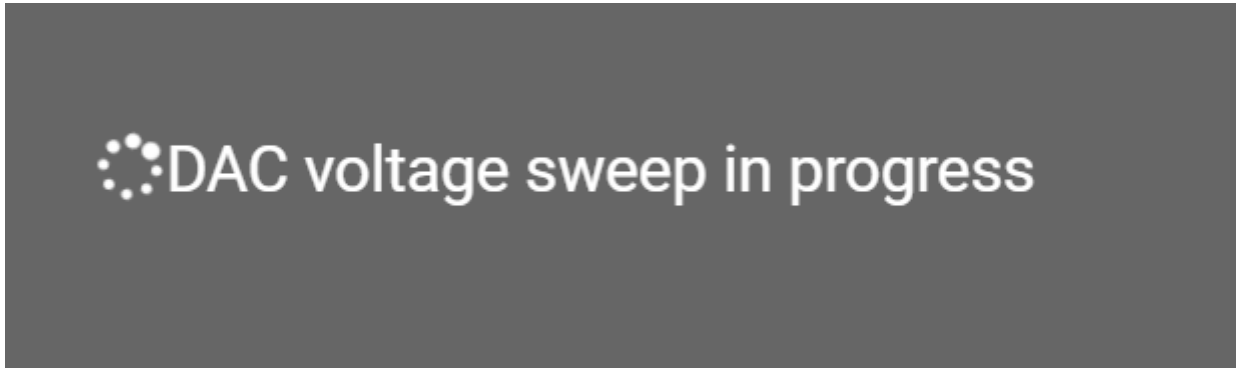

Figure 5-11. DAC Sweep in Progress Screen
- **Voltage sweep Drop-Down Box Option:** This method sweeps the DAC output voltage to find the sensed magnetic flux density and then sets the B_{OP} to this sensed magnetic flux density. It takes 20 seconds to complete the voltage sweep operation. During this time, the screen in Figure 5-11 will be shown. After 20 seconds has passed, the screen in Figure 5-11 should disappear and the status text box will say one of the following: